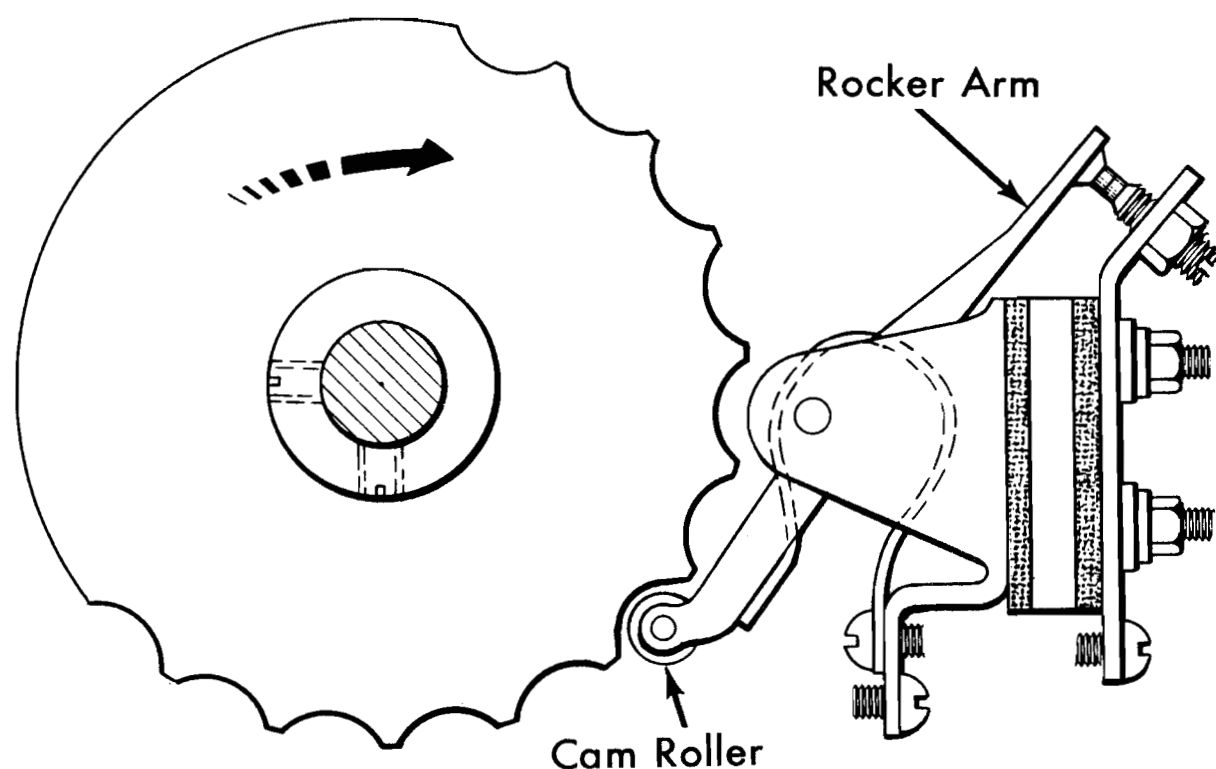

Figure 1. Rocker Arm Circuit Breaker Adjustments 1 and 2
1. Align the points so that the sides and faces are parallel (Figure 1).
2. The cam follower roller must be clear of the cam surface when the points are closed (Figure 1).